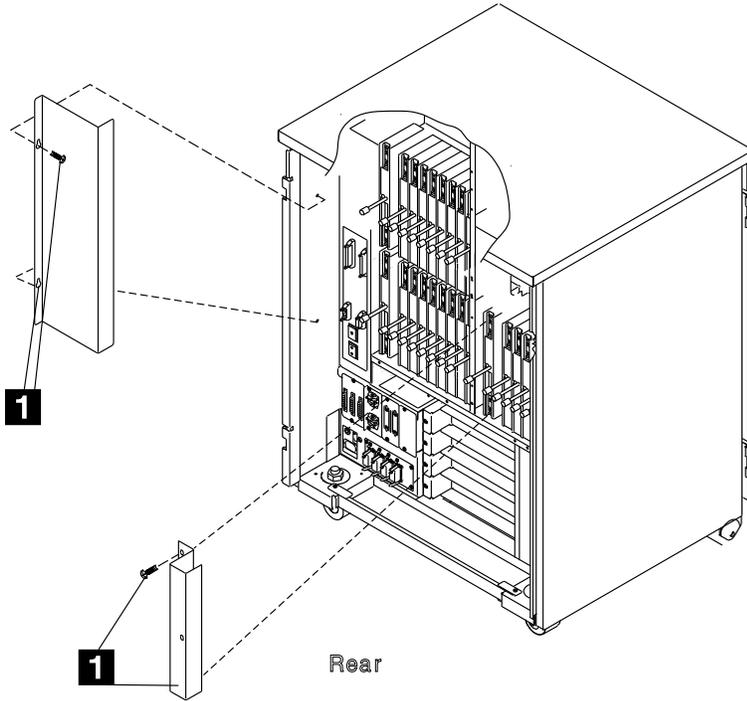

Figure 4-116. DMUX Cover
6. Remove one of the DMUX covers. Refer to Figure 4-116.
7. Refer to Figure 4-116 on page 4-85. Install the DMUX cover with two screws **1**.